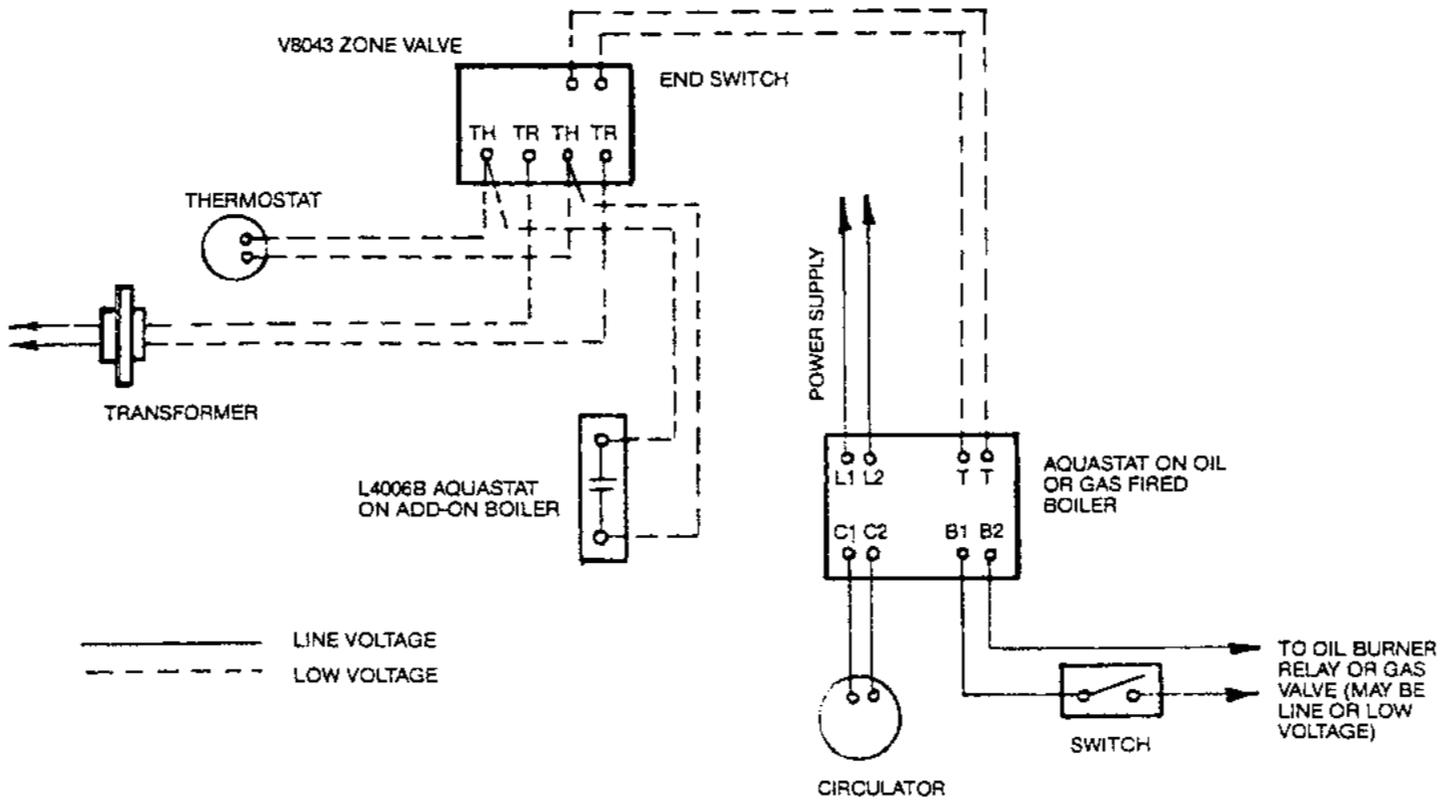

**FIG. 7 WIRING DIAGRAM**
2. When doing electrical wiring, refer to Figures 6, 7, 8, or 9. Refer to Figure 6 when using the WCB Boiler as an add on to an existing boiler with constant water circulation between the two boilers. Use Figure 7 for same installation without circulation between the two boilers. Figure 8 is